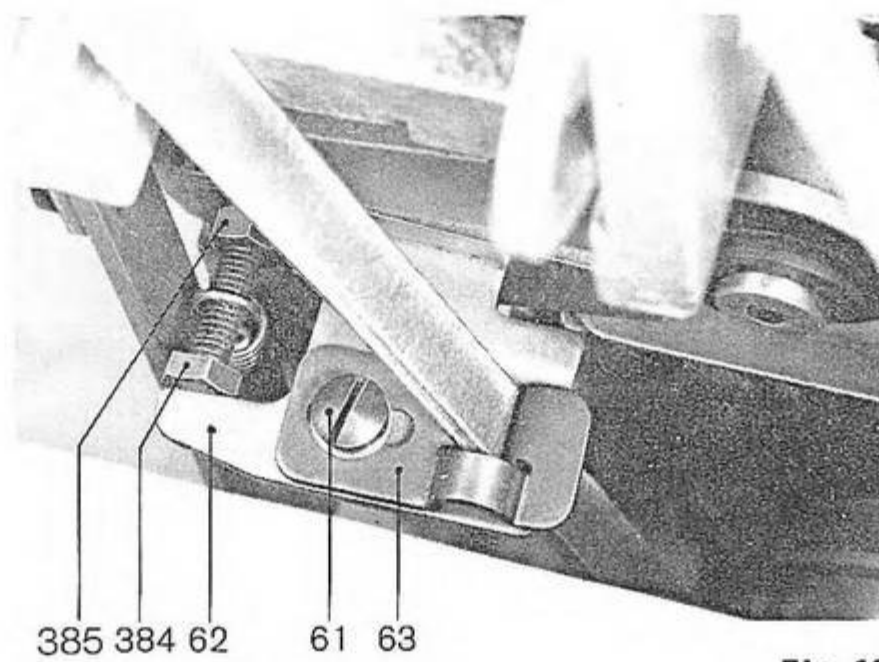

Fig. 16
Then place the flat belt on the driving pulley of the control gearing shaft and pass it through the guide of the fork 62 (fig. 16). For doing that, turn out the screw 61 and remove the guide sheet 63. Place the flat belt so that the leather surface shows inwards and the arrow shows in the direction of rotation (seen from the stand back counter-clockwise). Fit again the guide sheet 63 (fig. 16) on the belt fork 62.
35. Set the belt fork according to chapter 32. Align then the guide sheet 63 (fig. 16) so that the flat belt is not impeded.
If the belt tension is excessive, the belt fork 62 (fig. 16) will not place the belt from the fast to the slow pulley with sufficient speed. This will also impede to attain the stopping speed and lead to the above mentioned phenomena. A too high tension will affect the service life of the belt.